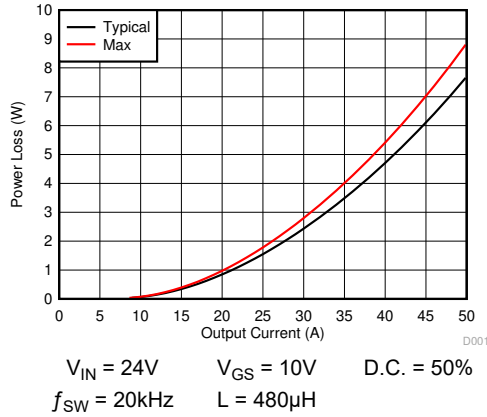

Figure 4-1. Power Loss vs Output Current
The typical power block system characteristic curves (Figure 4-1 through Figure 4-6) are based on measurements made on a PCB design with dimensions of 4in (W) × 3.5in (L) × 0.062in (H) and 6 copper layers of 2oz copper thickness. See Section 5 for detailed explanation. $T_J = 125^\circ\text{C}$, unless stated otherwise.
図 4-1 plots the CSD88584Q5DC power loss as a function of load current. The measured power loss includes both input conversion loss and gate drive loss.
In the example below, we show how to achieve this for the temperatures $T_C = 124^\circ\text{C}$ and $T_B = 120^\circ\text{C}$. First we draw from 50 A on the Y-axis at 124°C to 120°C on the X-axis. Then, we draw a line up from where this line crosses the T_X line to see that this line intercepts the SOA at 39A. Thus we can assume if we are measuring a PCB temperature of 124°C , and a top case temperature of 120°C , the power block can handle 39A RMS, at the normalized conditions. At conditions that differ from those in Figure 4-1, the user may be required to make an SOA temperature adjustment on the T_X line, as shown in the next section.
- Power loss at 40A \approx 4.7W (図 4-1)